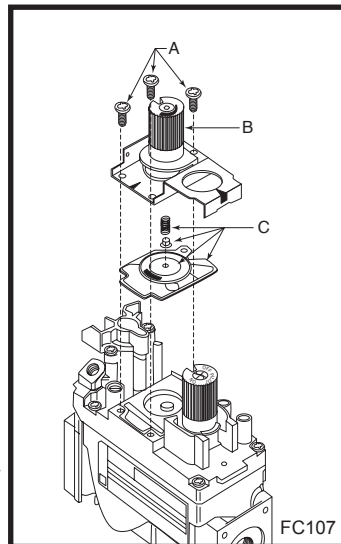

Fig. 50 Remove mounting screws, pressure regulator tower and spring and diaphragm assembly.
1. Using the TORX T20 bit, remove and discard the three (3) pressure regulator mounting screws (A), pressure regulator tower (B) and the spring and diaphragm assembly (C). (Fig. 50)